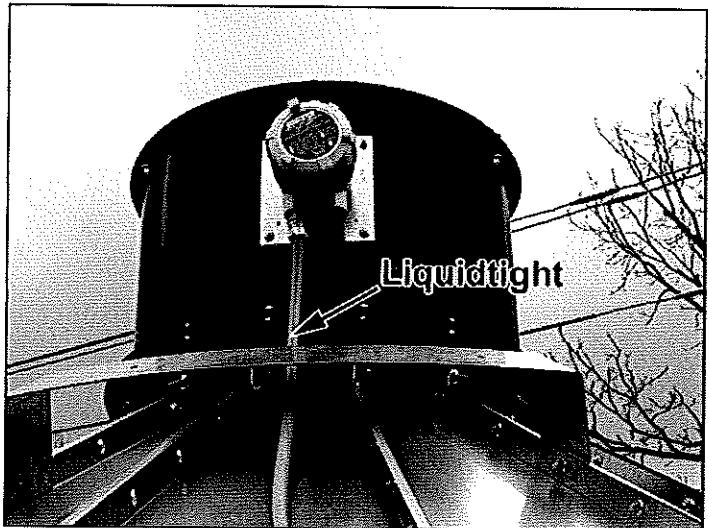

Figure 37
- Start with running liquidtight from the roof section down to the High Voltage Cabinet. **See Figure 37.** When the Installer is dropping the liquidtight down from the top of the dryer, the receiving tube should rotate at the top of the dryer so the Rotary Slicer blade is oriented properly for this dryer's wet grain in-feed style.